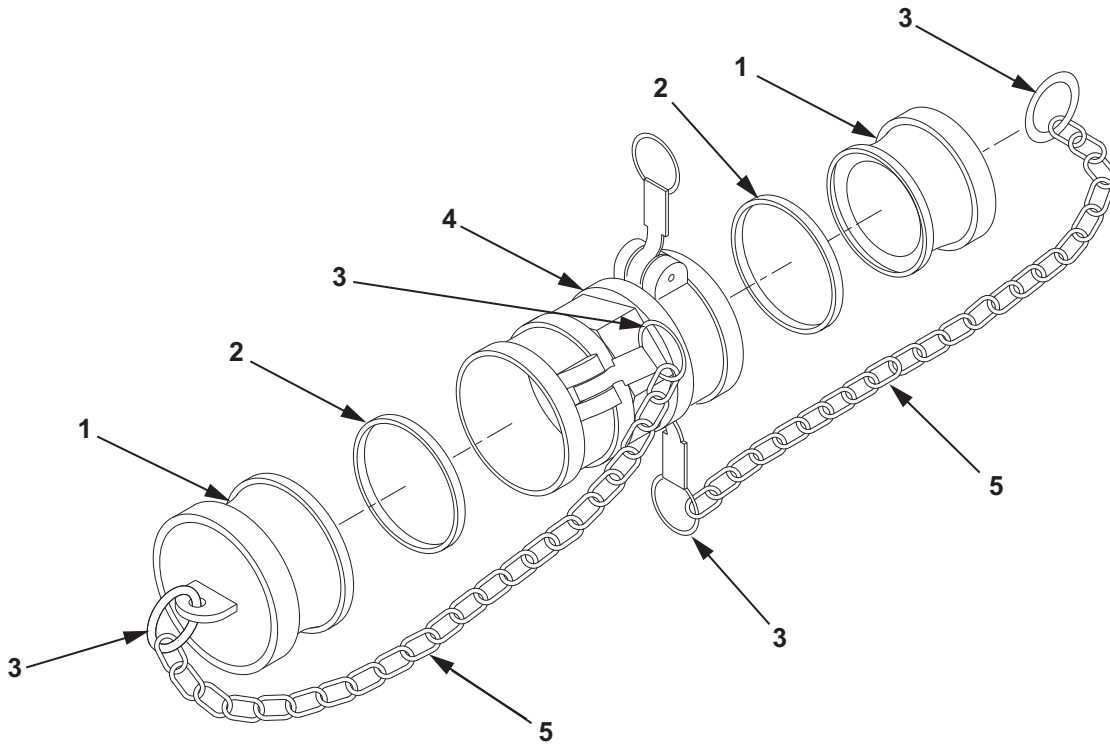

Figure 1. 3 In. Double Female Adapter Disassembly.
1. Remove dust plugs (Figure 1, Item 1) from ends of double female adapter assembly (Figure 1, Item 2).
2. Remove two gaskets (Figure 1, Item 2) from double female adapter (Figure 1, Item 4). Discard gaskets (Figure 1, Item 2).
3. Remove four split rings (Figure 1, Item 3) from two dust plugs (Figure 1, Item 1) and double female adapter (Figure 1, Item 4).
4. Remove four split rings (Figure 1, Item 3) from two chains (Figure 1, Item 2).